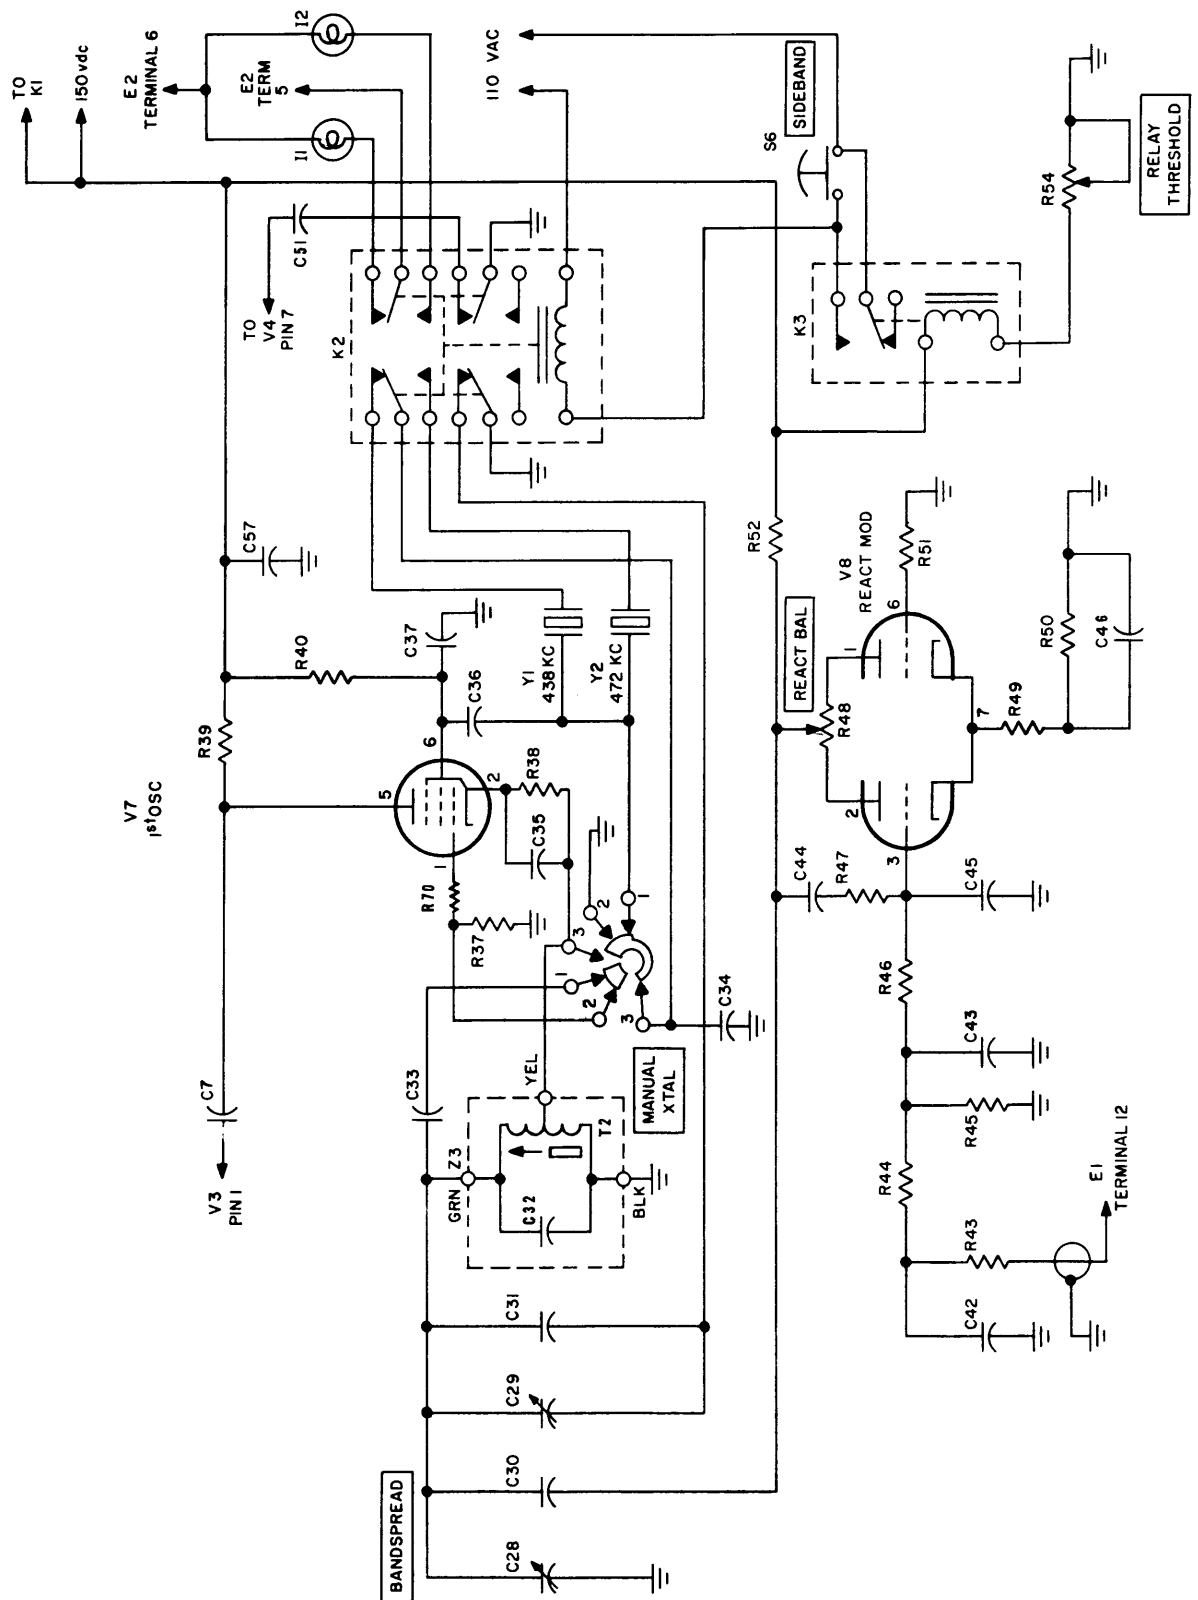
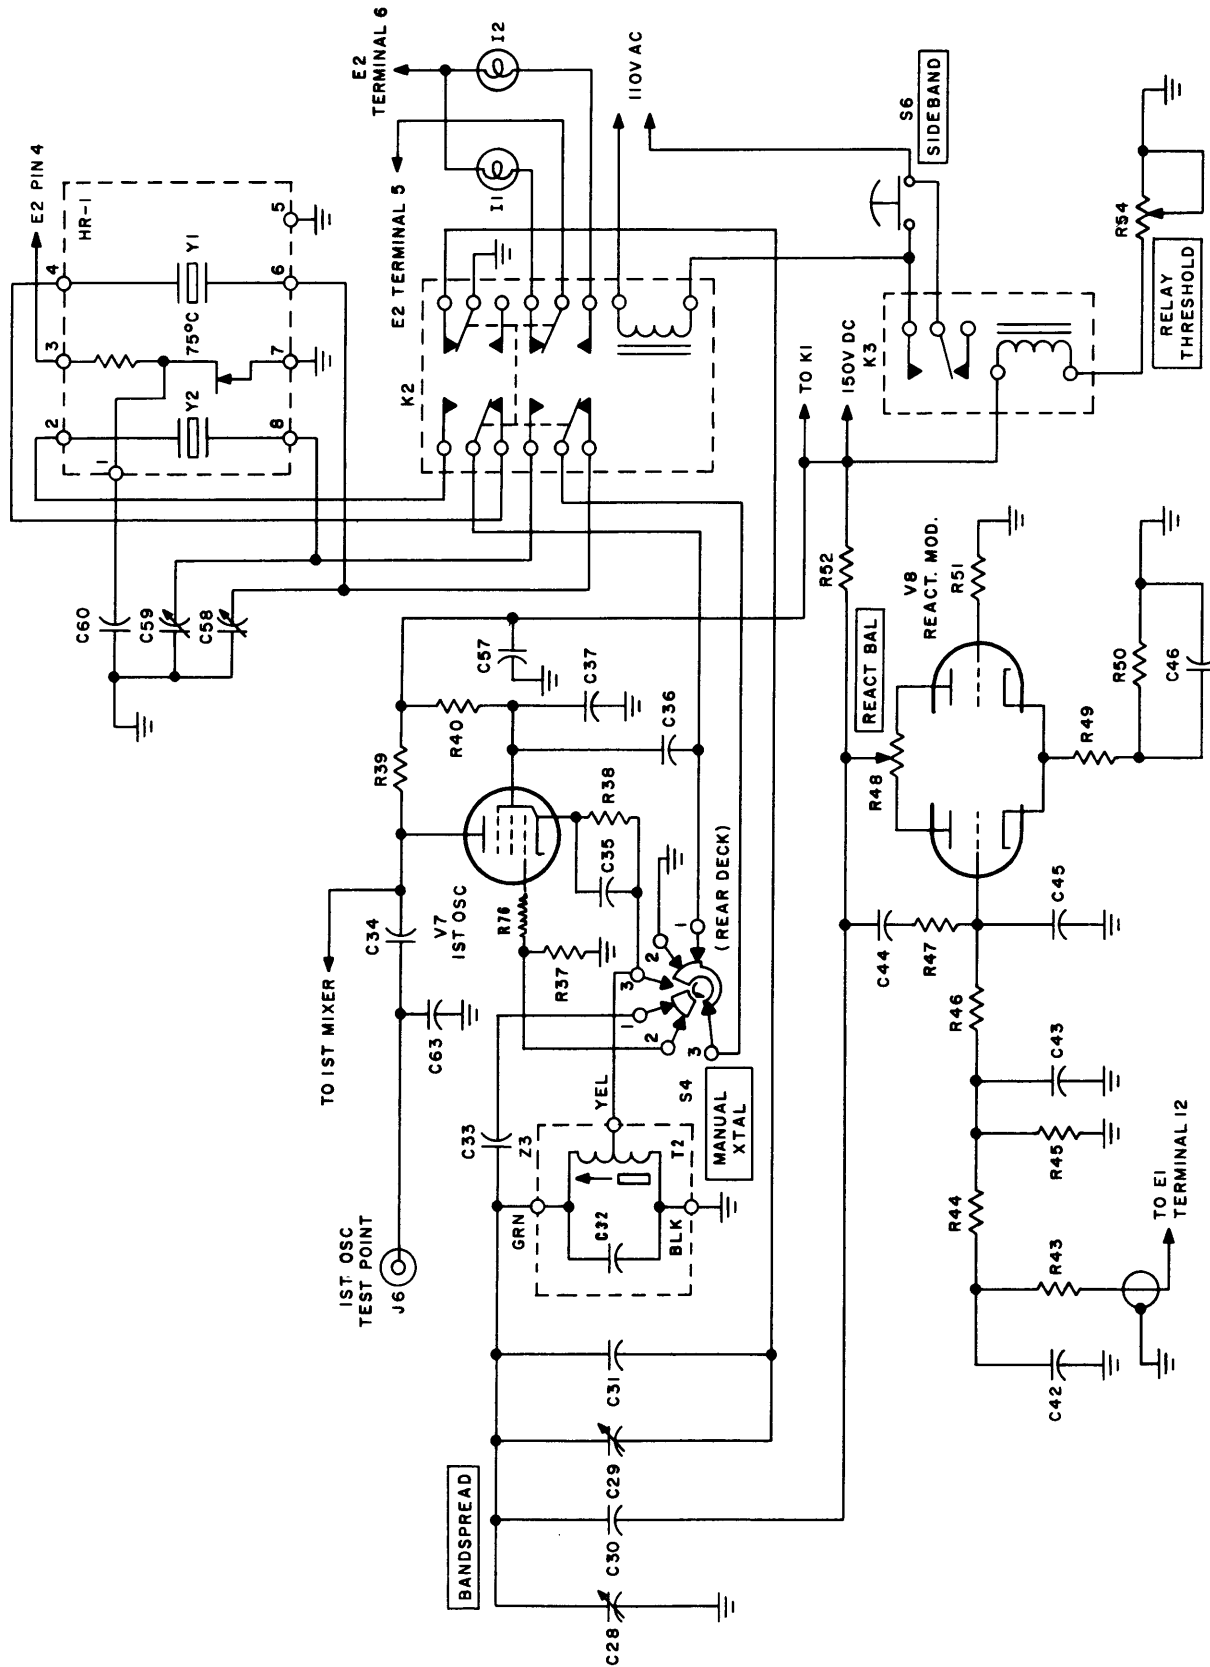

Figure 4-8. 1st Oscillator and Reactance Modulator, Model MSR-4, Simplified Schematic Diagram
Figure 4-9. 1st Oscillator and Reactance Modulator, Model MSR-5, Simplified Schematic Diagram
e. 1st OSCILLATOR AND REACTANCE MODULATOR (Figure 4-8, Model MSR-4, Figure 4-9, Model MSR-5). - The 1st Oscillator V7, provides the tunable frequency source for correctly tuning the signal in the bandpass filter. It may be accomplished either manually with the BANDSPREAD control C28 or crystal controlled, selected by the MANUAL/XTAL switch S4. The reactance placed across the 1st Oscillator tuned circuit is varied to change frequency. A  $\pm 4.5$  vdc input to the Reactance Modulator V8 via terminal board E1 is sufficient to vary the oscillator  $\pm 3$  kc. This voltage is obtained from the BFO channel of the TMC Model RCR Remote Control Receiver System.